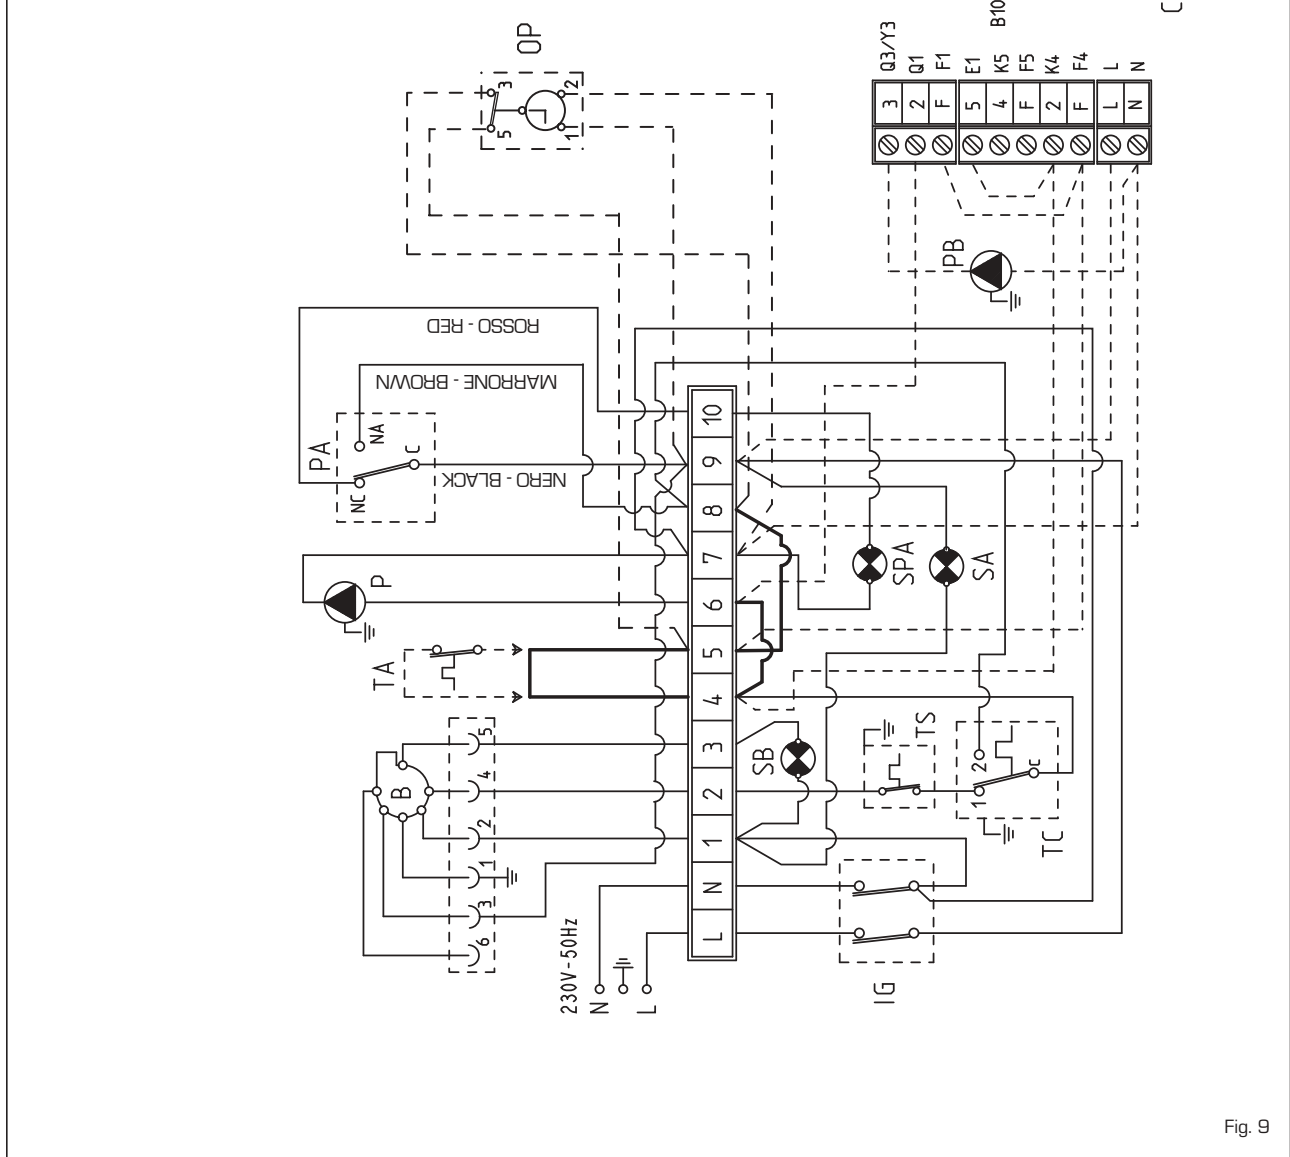

Fig. 9
2.7.2 "DUETTO 25-35" wiring diagram (fig. 9/a)